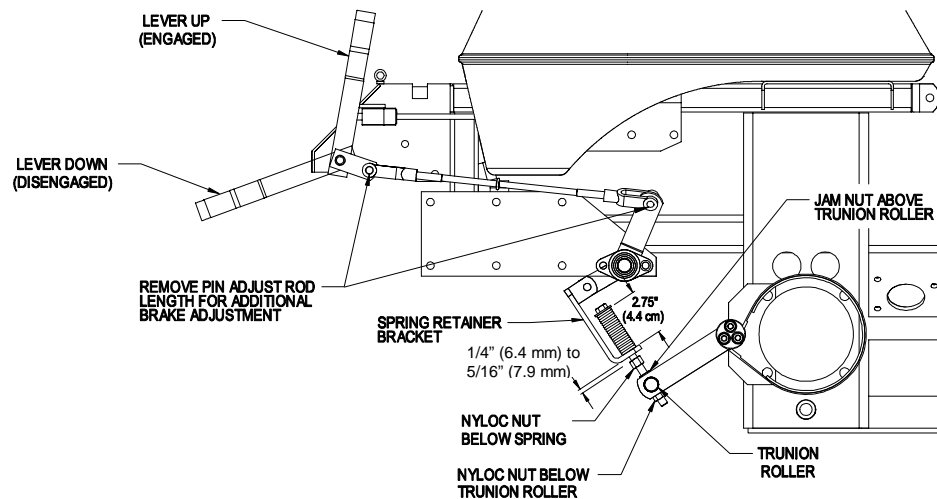

FIGURE 14
- b) Measure the length of the spring. Measurement should be 2 3/4" (7.0 cm) between washers (see Figure 14).